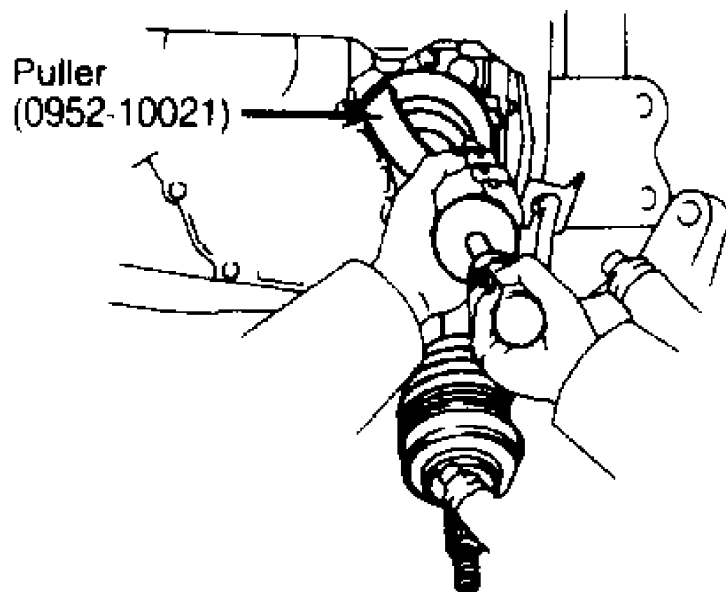
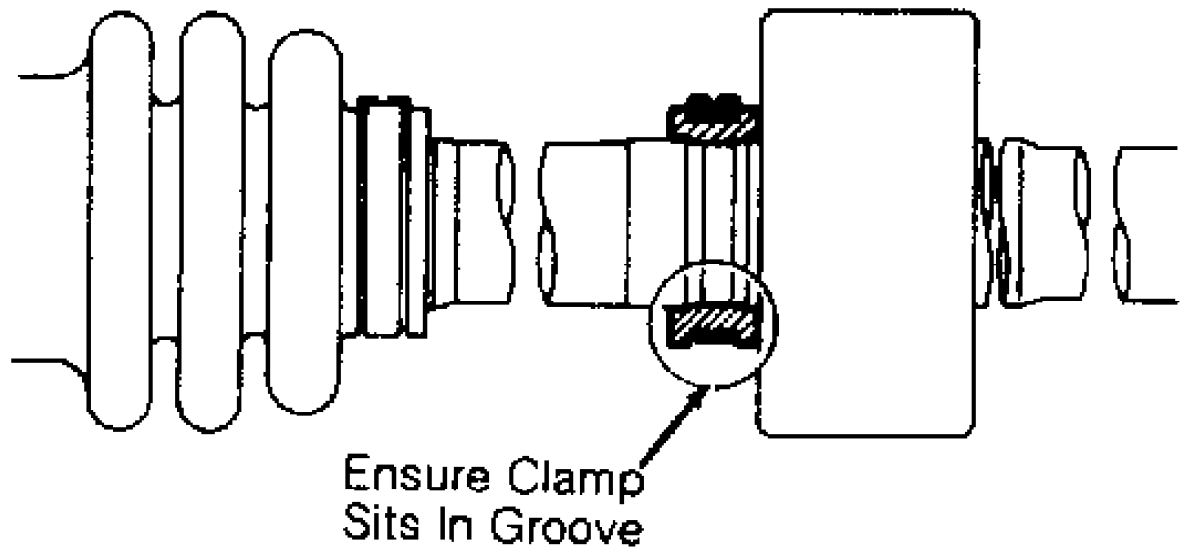

Fig. 9: Removing Drive Axle Shaft (Celica & Tercel Sedan)
Fig. 11: Locating Damper on Corolla FX (4A-GE Engine)
5) On the 3S-GE engine, left axle shaft, place an index mark on the shaft and measure the distance from transaxle case to index mark. Note distance for reassembly. Using Drive Axle Puller (SST09520-32060) and slide hammer, remove the axle shaft from transaxle. See Fig. 9. Using Puller (SST09950-20016), separate axle shaft from steering knuckle.
5) Using Puller (SST09520-10021) and slide hammer, tap the axle shaft out of the transaxle and remove axle shaft. See Fig. 9. Insert Transaxle Stopper (SST09563-16010) into transaxle to prevent fluid leakage.
3) On Tercel Sedan, Tercel Wagon and Corolla (4A-F), install damper to axle shaft in correct position. Tighten clamps. See Figs. 9 and 10. On Corolla FX with 4A-GE engine, install damper on right side axle shaft. Ensure clamp sits in groove on shaft. See Fig. 11.